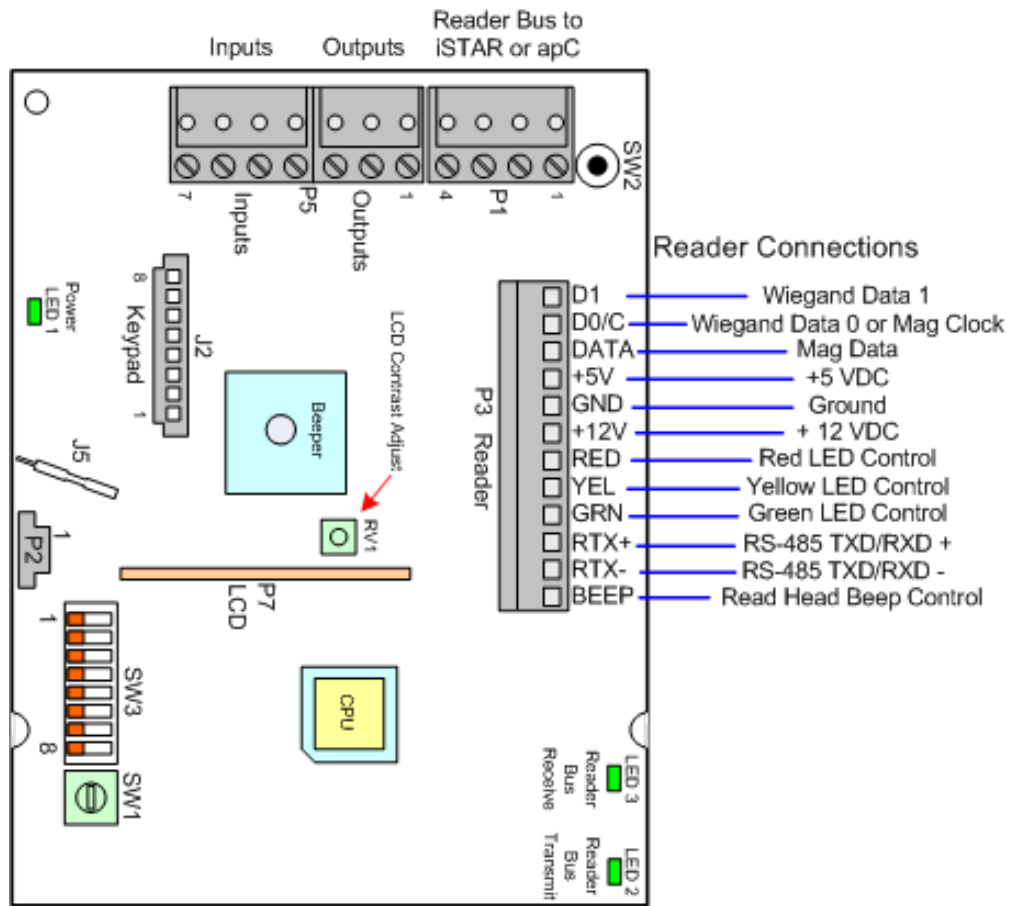

FIGURE 4. RM-4 Reader Wiring
**Wiring the Reader** Figure 4 shows RM-4 P1 and P5 wiring.